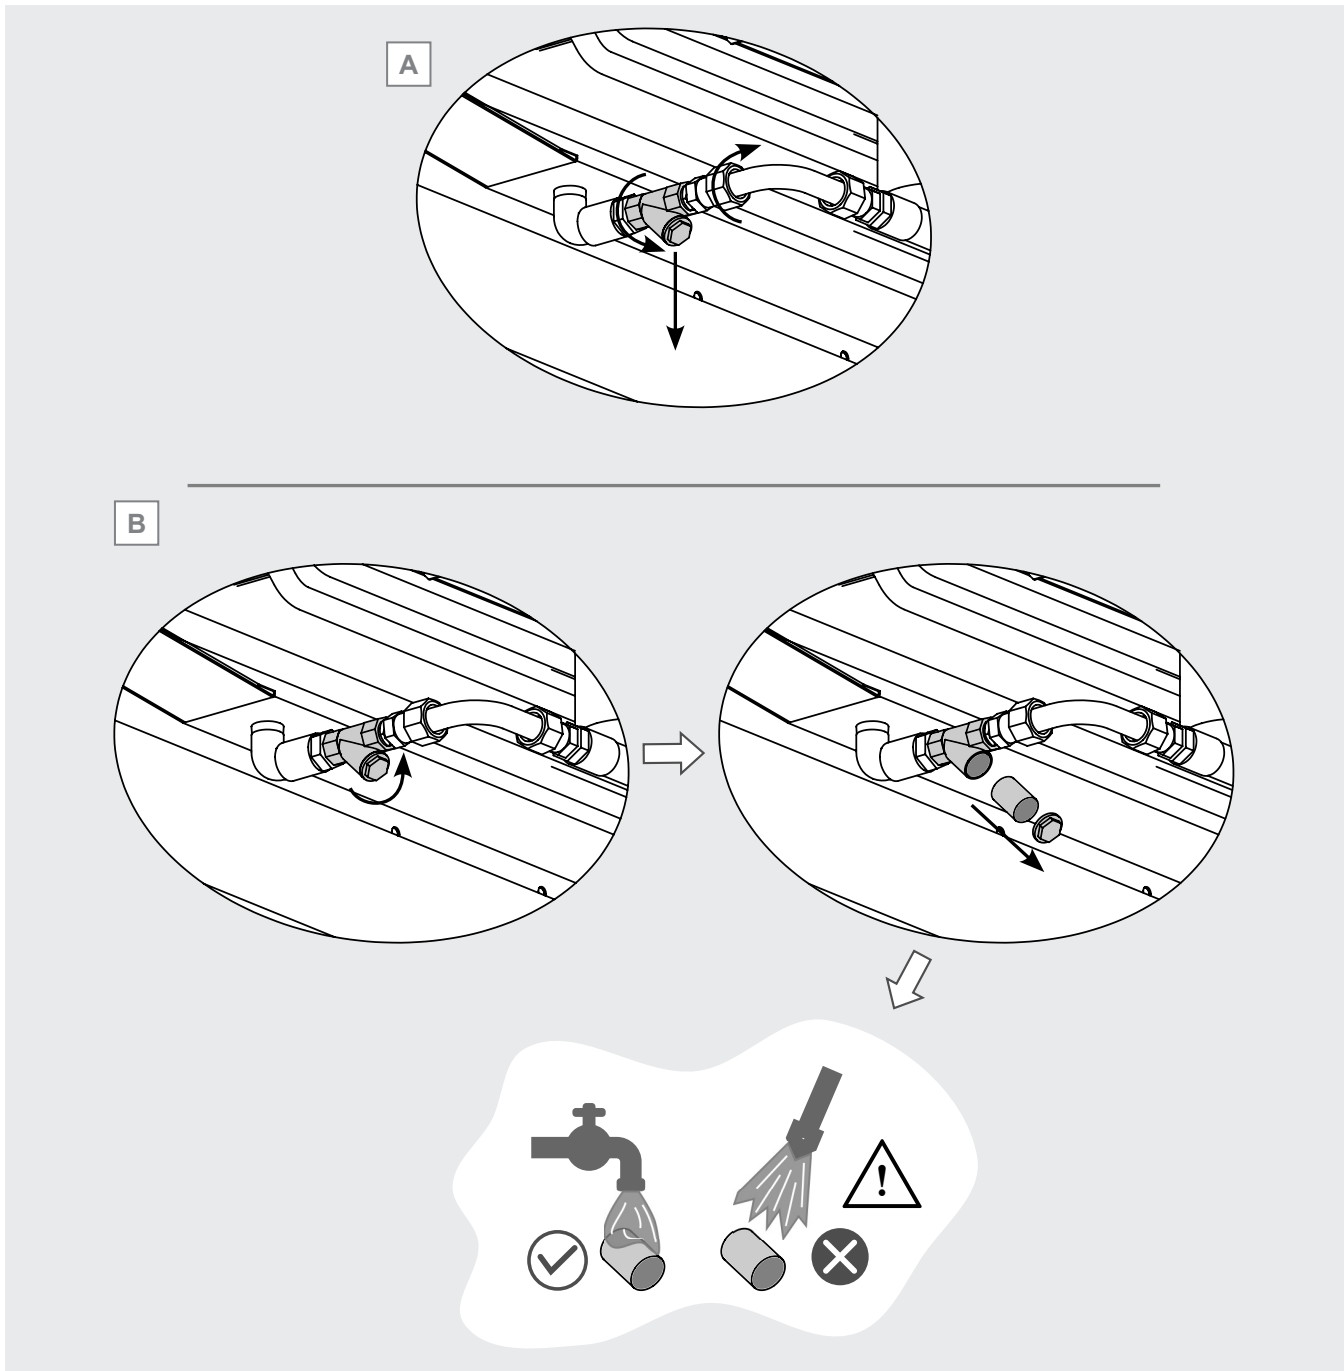

Figure 31
- 12.18.6 If the entire filter has to be replaced, unscrew the connections at the ends, see Figure 31 A: first the quick coupling and then the nut. Remove the filter and replace it with a new one with the same dimensions and characteristics: pay attention to the pressure rating on the housing. Contact Modine if necessary.
- 12.18.7 To clean the filter, unscrew the sealing cap at the bottom of the body, remove it and remove the inner drum. Take care not to damage the drum. See Figure 31 B.